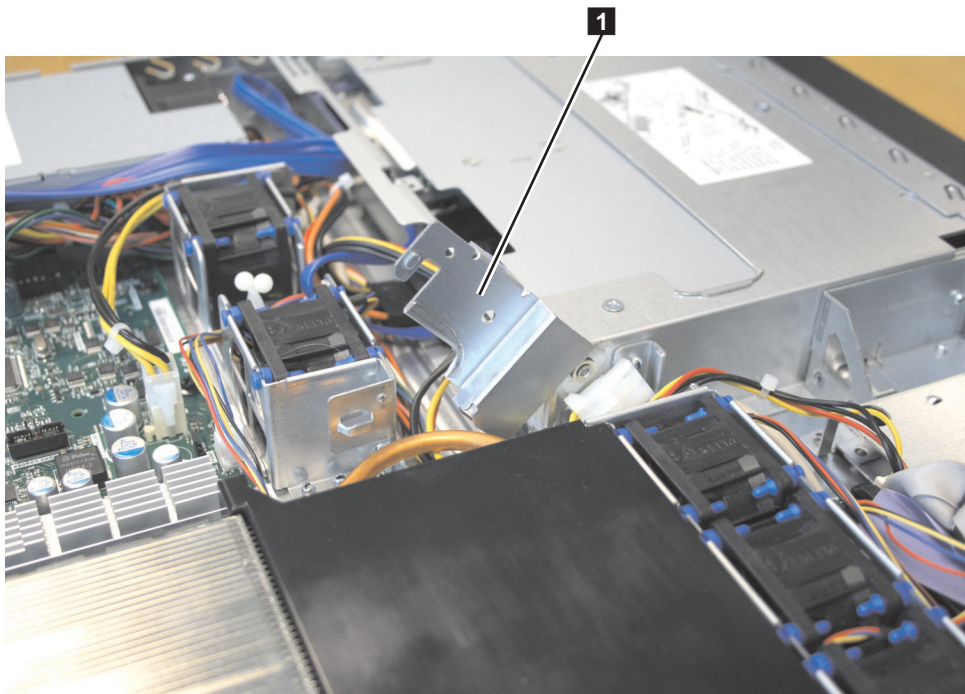

Figure 95. Air deflector for the SAN Volume Controller 2145-8A4 power supply
9. Rotate (lift) the air deflector **1** out of the way, as shown in Figure 95.